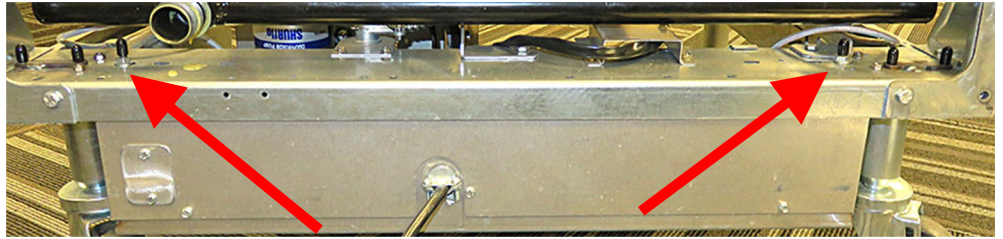

Figure 12
13. Remove the two (2) vinyl caps from the studs of the transformer box (see Figure 12).